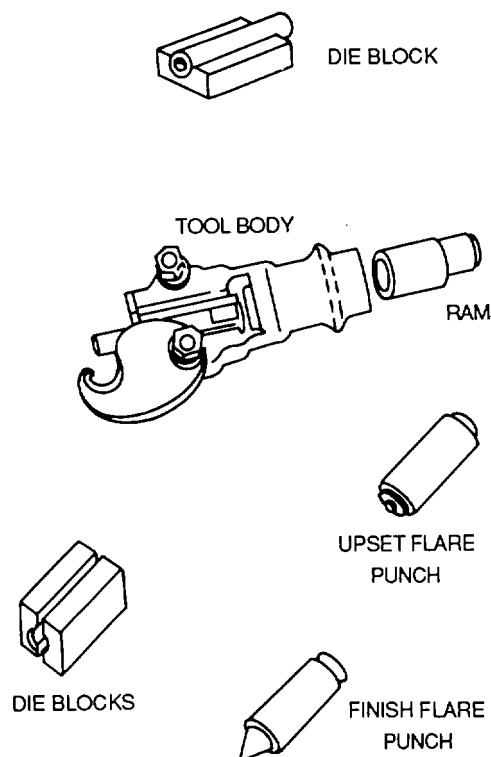

Figure 4-122. Double-Flaring Tool
(2) *Double-flaring tool*. The double-flaring tool, shown in figure 4-122, has two punches which are tapped by a hammer to produce the flare. Refer to TM 1-1500-204-23-2 for the applications of a double flare.